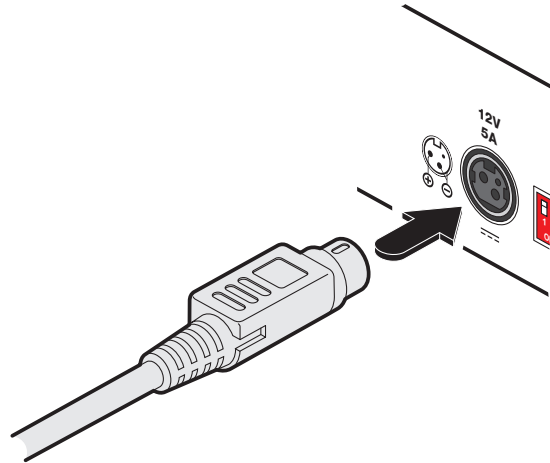

Figure 3-6. Connect the power adapter to the rear panel power socket.
- 1 Attach the output lead from the power adapter to the 12v socket on the rear panel of the KVM module. See Figure 3-6.